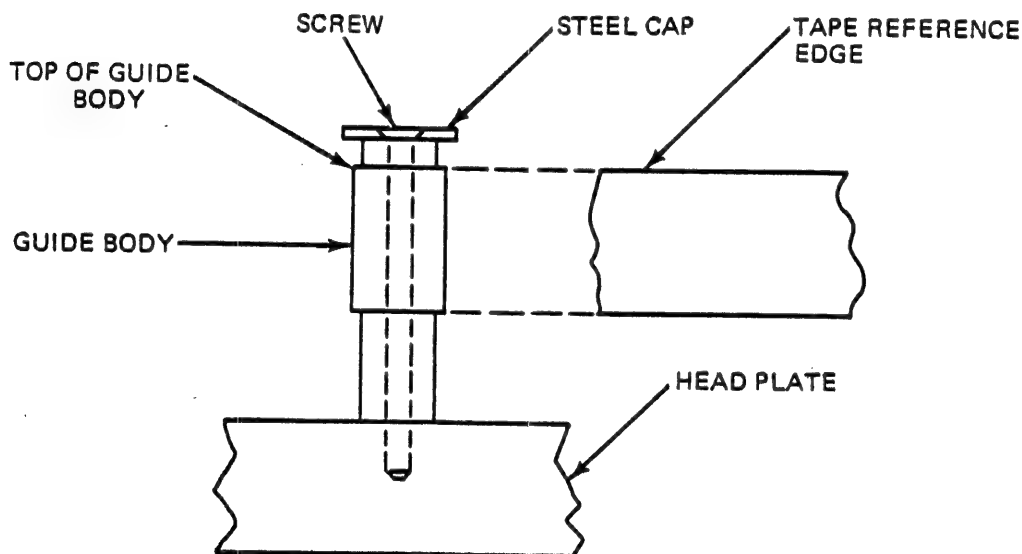

Figure 4-21. Head Guide With Ceramic Washers Removed
This procedure should be used only if the capstan or capstan motor have been replaced. To accomplish free track alignment, see Figure 4-21 and use the following procedure:
- c. Remove head guides and reinstall guide body and cap only (see Figure 4-21).